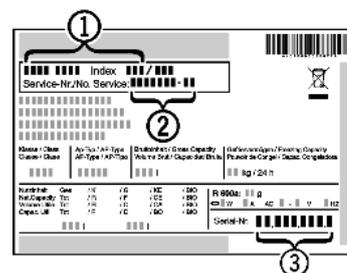

Fig. 17
- ▶ Read off the appliance name *Fig. 17 (1)*, service no. *Fig. 17 (2)* and serial no. *Fig. 17 (3)* from the model plate. The model plate can be found on the inside of the appliance on the left.